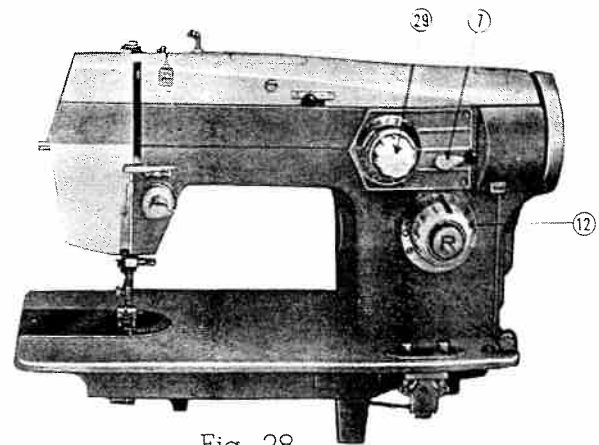

Fig. 28
For a quick easy way to raise the presser foot to turn or remove the material being sewn turn presser foot lifter 7 (Fig. 28) to its horizontal position.
- (1) Zigzag stitch width control knob 29 (Fig. 28) is set at 0.
- (2) Stitch length control 12 (Fig. 28) is set approximately halfway between Number 1 and 0.